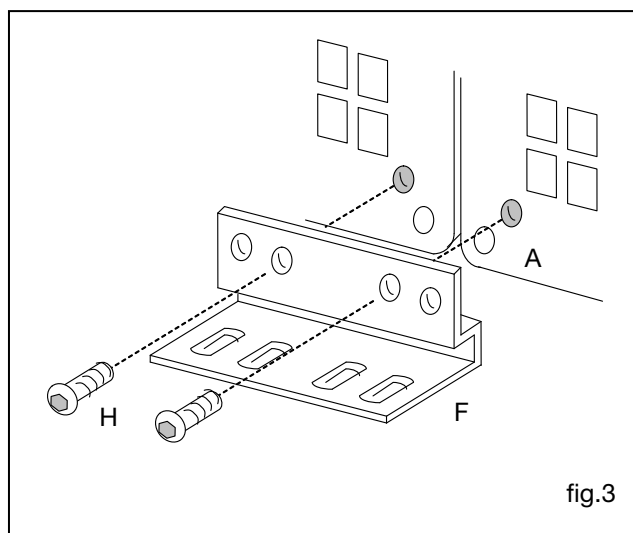

fig.3
4. Join the bottom corners of the front and back panels (A) together using the two mounting brackets (F), and four of the M8 bolts (H). (fig.3)
5. Join the middle and the top corners of the front and back panels (A) using the support brackets (G) and the remaining M8 bolts (H).